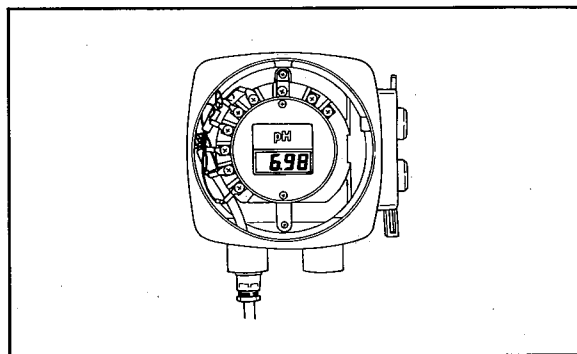

Figure 2-17. Sensor Cable Connection to Two-Wire Transmitter.
- (1) Turn the two-wire transmitter cover counter-clockwise and remove it.
- (2) Connect the sensor cable to the transmitter terminals. First, remove the nut from the cable gland, pull the cable into the internal assembly through the wiring hole on the front panel right side. Correctly connect each conductor to the corresponding terminal observing conductor marking (see Figure 2-17).